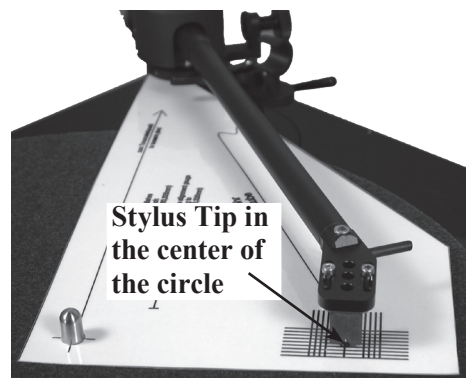

Figure 28
3. It is important the Front and Sides of the Cartridge Body line up with these parallel lines when looking down over the top of the Tone Arm. Refer to figures 28 and 29. If it is not parallel, loosen the mounting hardware securing the Phono Cartridge to the Tone Arm. Reposition the Phono Cartridge so the tip of the stylus is in the center of the small circle and the Front and Sides of the Phono Cartridge are parallel to the lines on the Alignment Gauge. Tighten up the mounting hardware and verify the correct alignment.